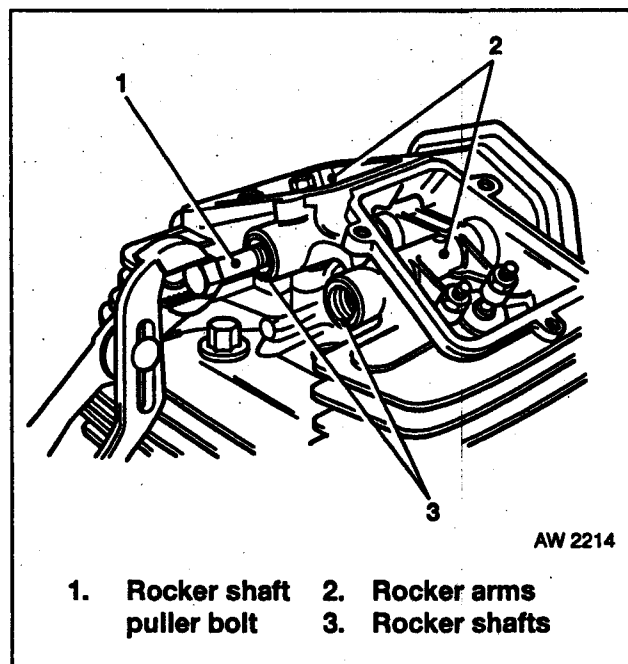

Fig 2.9 Rocker Shaft Removal
e. **Cylinder Head - Strip Down.** Remove valve access covers, undo the 2 Hex socket plugs, then using a 10mm bolt to locate into rocker shafts - pull the shafts from the cylinder head (Fig 2.9 refers).